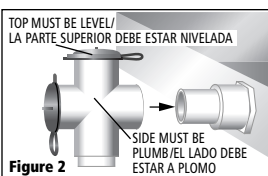

Figure 2
2. Glue inlet Cross onto stub. Cross **MUST BE PLUMB**. (**Figure 2**). Open (uncapped) end of cross faces down.